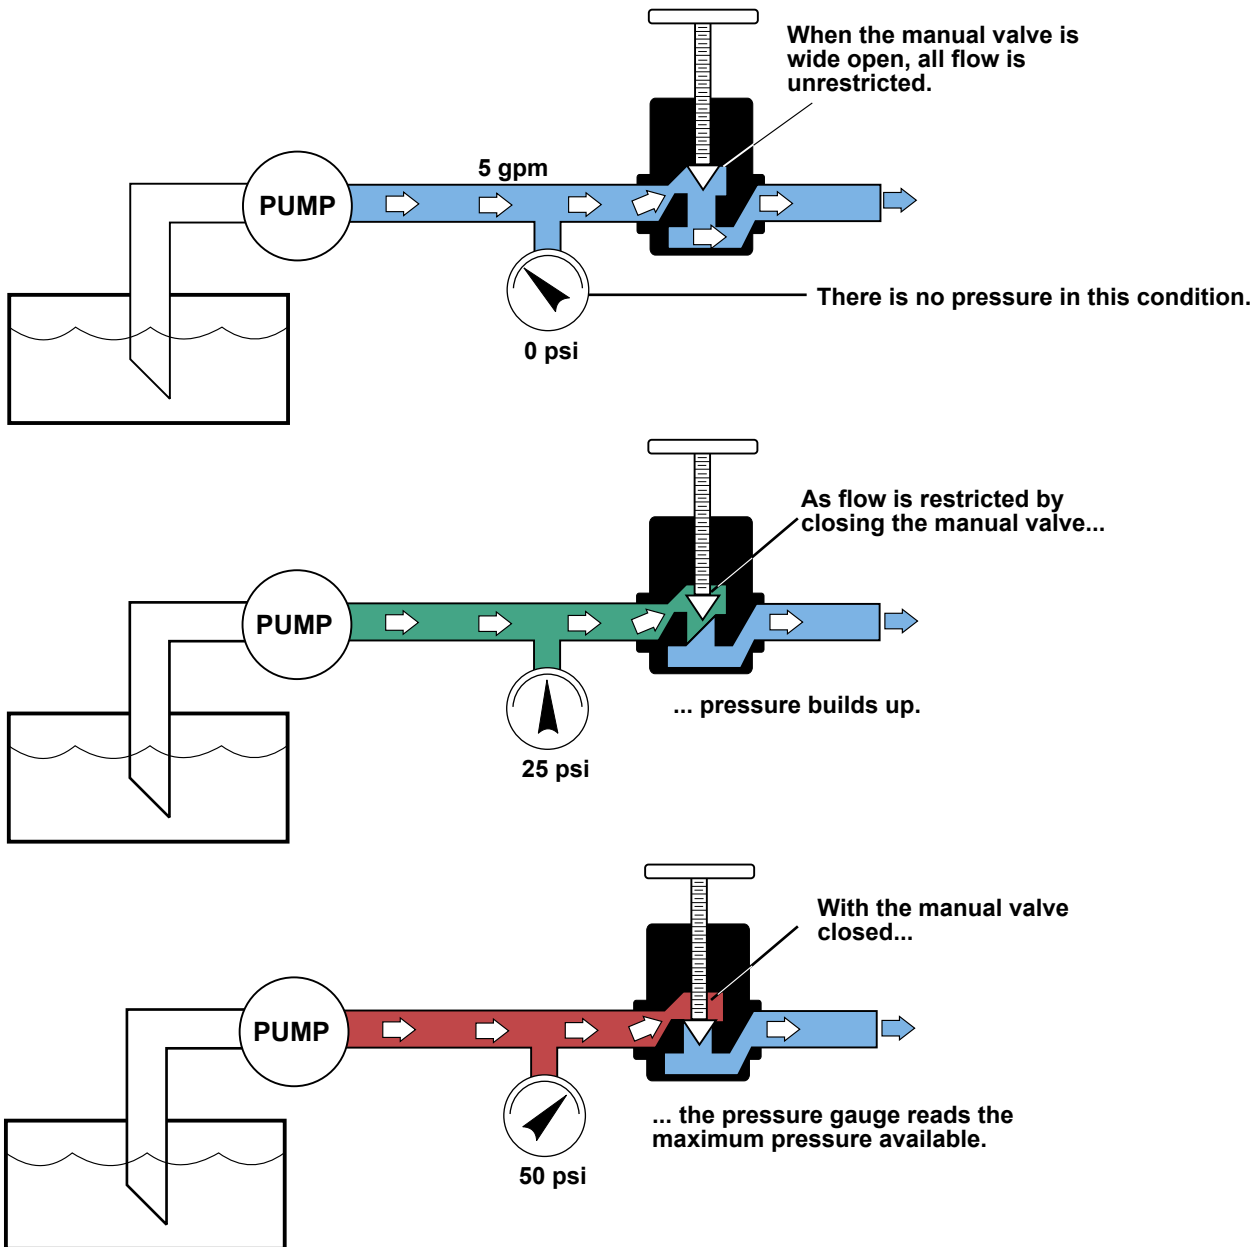

Figure 1-3
Pressure results whenever the flow of a fluid is resisted. The resistance may come from (1) a load on an actuator, (2) a control valve or, (3) a restriction (or orifice) in piping. See Figure 1-3.